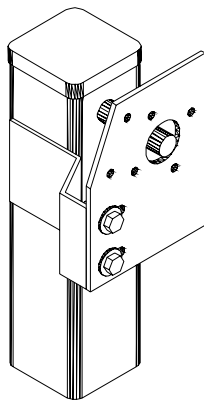

Figure 4.
Note: The brackets supplied with this system were designed for single leg landing gear legs. The legs can be found on conventional or “fifth wheel” trailers. You can refer to figure 4 on page 2 for an overview of how the brackets will be mounted.
8. Adjust the face plate and side plate so they are square with one another. Refer to figure 4.